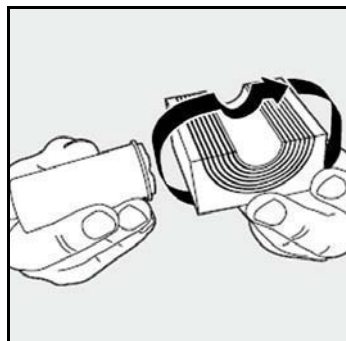

Figure 9-7. Greasing a Roxtec Module
- Roxtec grease, used to assemble and seal the modules (**Figure 9-7**).